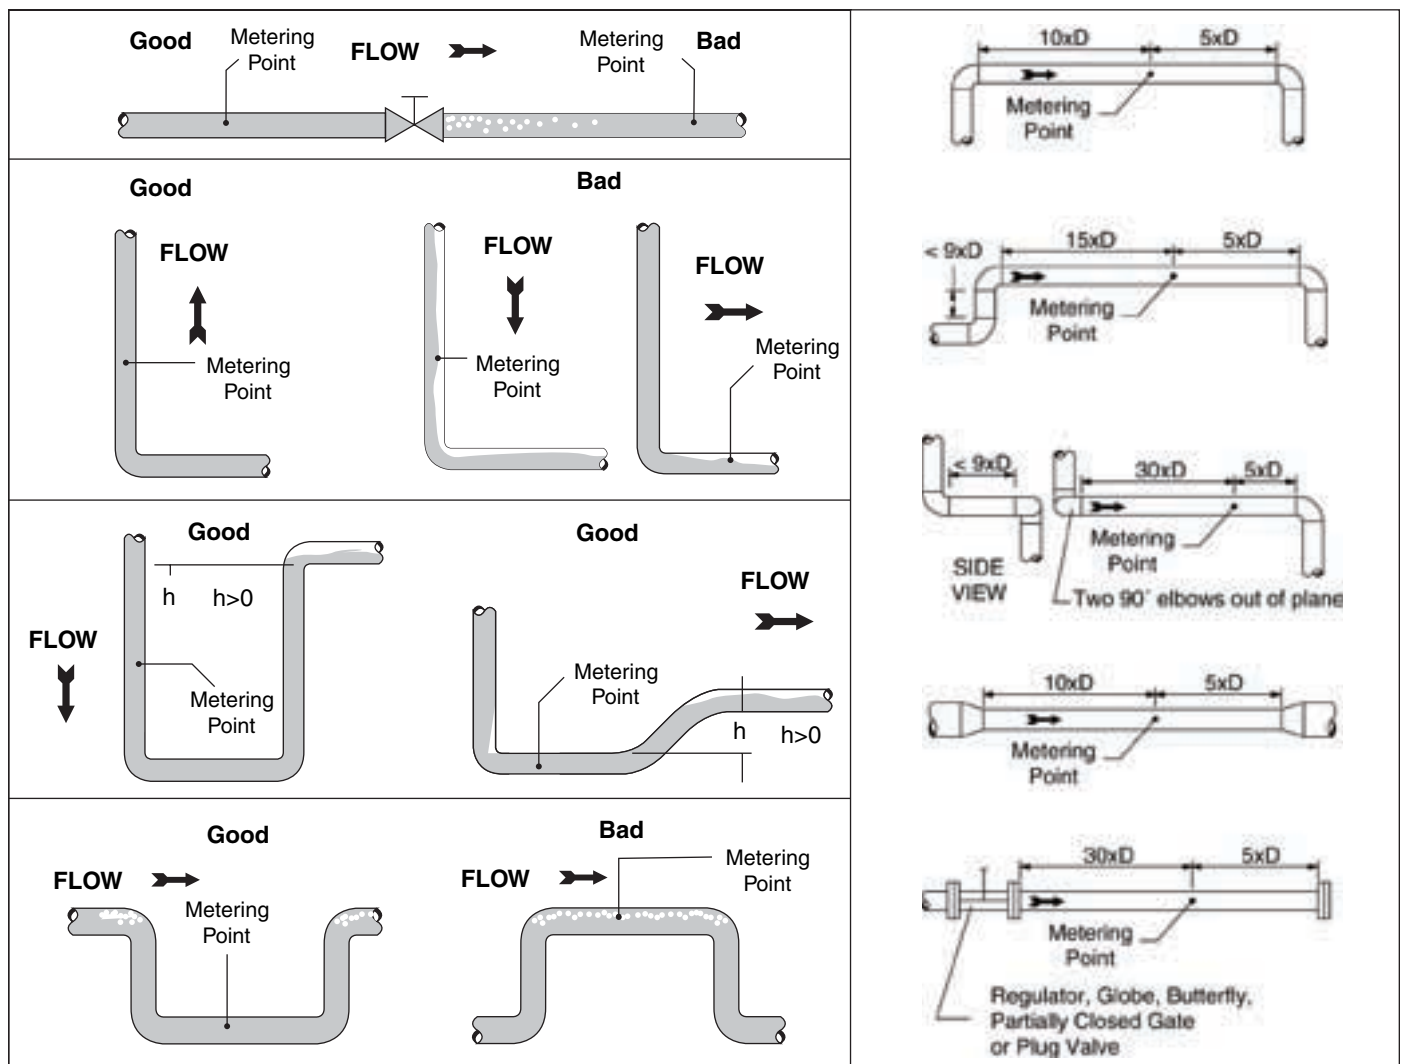

Figure 2. Flow meter location illustrations and straight run requirements
For optimum performance, you must consider straight run requirements and flow meter installation location relative to flow direction. Figure 2 on page 3 illustrates possible flow meter locations. The good flow meter locations are recommended to ensure that the pipe and the flow meter will always be filled with fluid.
The straight run of the pipe must have the same nominal diameter (D) as the flow meter body. Figure 2 illustrates the minimum requirements for straight run piping.